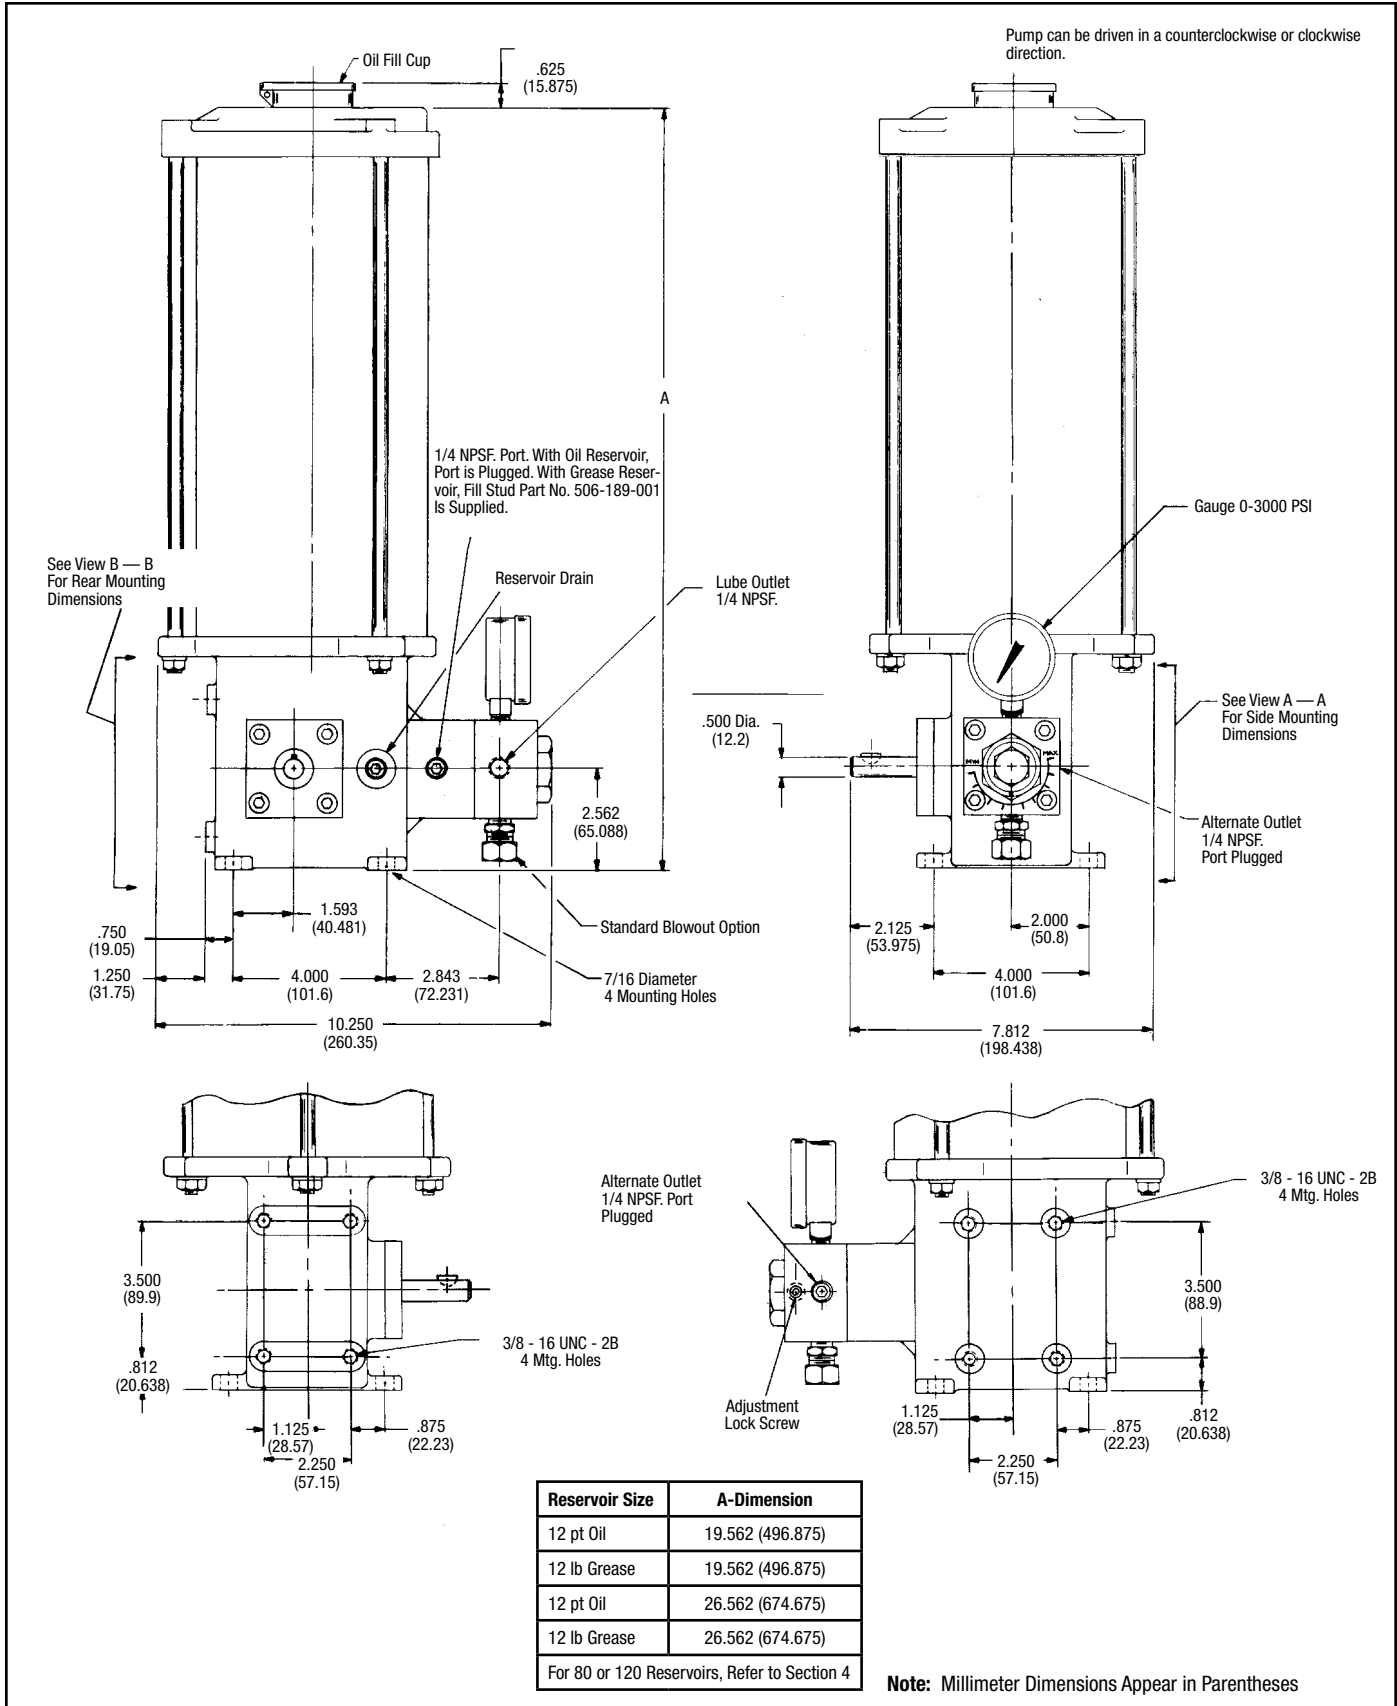

Figure 3-4. LUBEMASTER Pump and Reservoir Dimensions
3.2.1 Mounting. Dimensions of the basic LUBEMASTER Pump are provided in Figure 3-4. It can be wall-mounted on one of two sides or foot-mounted on a machine or suitable base. Mounting dimensions, thread sizes and through-hole clearance sizes are shown in Figure 3-4. The pump must always be installed with the reservoir in a vertical position to ensure proper operation. If the pump is equipped with one of the drive options (DOA through DOE), refer to Section 4 for mounting dimensions. Also refer to Section 4 if 80 or 120 lb reservoir is used. These large reservoirs are only available with a motor drive.